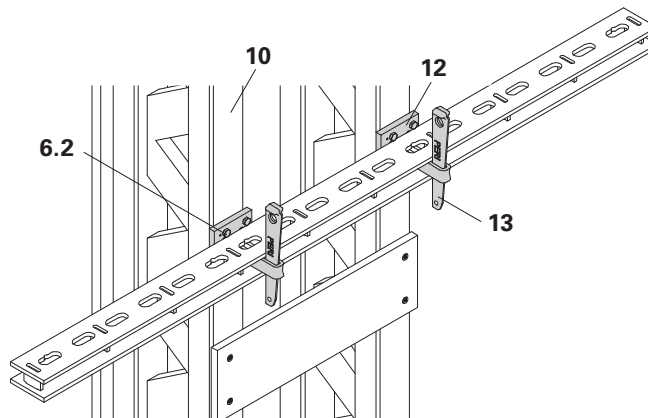
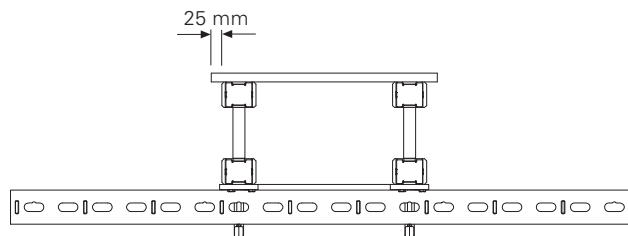

Fig. B7.04
Fig. B7.05
2. Plywood projects over left and right edges by 2.5 cm. (Fig. B7.05)
3. Mount coupling compression plate (12) to each GT 24 Girder at the level of the steel waler and secure with K wedges (13).
6. Provide tie holes depending on the filler area. (Fig. B7.04)